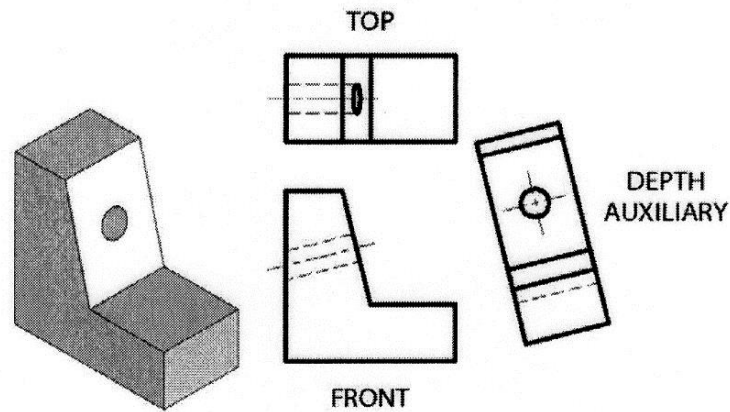

Figure 1. Depth Auxiliary.
- a. Depth auxiliary – The inclined surface will appear foreshortened in a top view and a right-side view. The inclined surface will appear as a line or edge in the front view (see Figure 1).